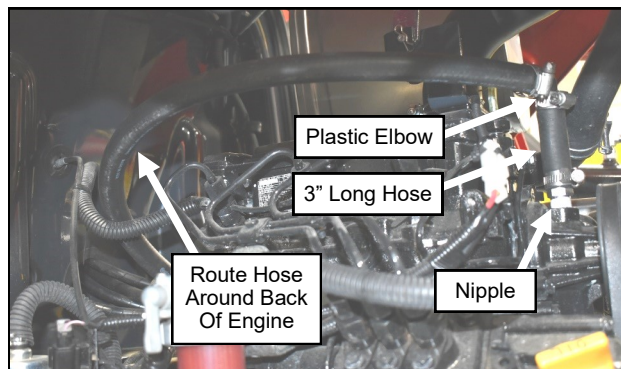

Figure 17.13 (Right Side of 1726E Engine Bay)
17.13 Remove the plug in the top of the thermostat and install the supplied nipple with Teflon tape (not supplied). Cut a piece of hose 3" long and install to the plastic elbow provided with a small hose clamp. Install the elbow assembly to the nipple with another small hose clamp oriented as shown in Figure 17.13.
17.14 Install the remaining heater hose to the elbow with another small hose clamp and route down the right side of the engine and across the back to the left side. See Figures 17.13 and 17.14.